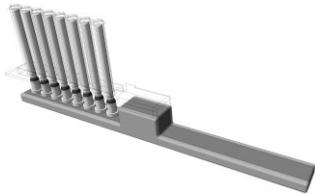

Figure 21. Air-drying the magnetic beads.
18. Remove the IndiMag Handheld with the rod cover and attached magnetic beads from **column 3** and place them upside down on a flat, stable surface. Ensuring it is positioned securely so it cannot tip over (Figure 21). Allow the magnetic beads to air dry for 10 minutes.